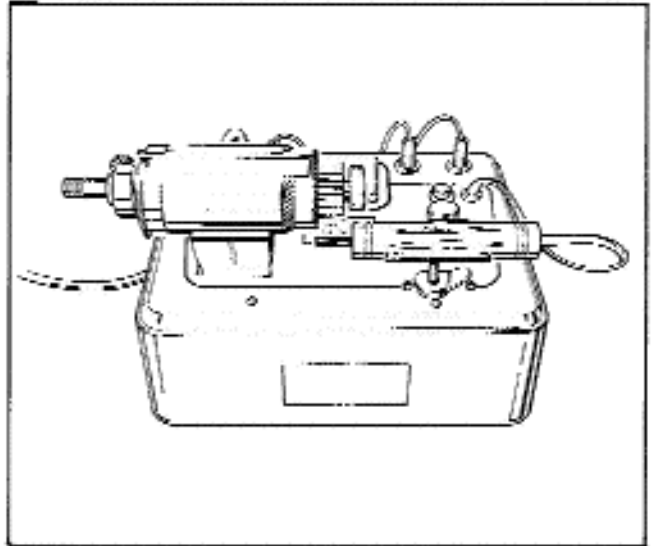

Figure 12 - Armature Short Test
2. Using steel blade provided with tester, or hack saw blade, hold blade parallel with and touching armature core. See Figure 12.